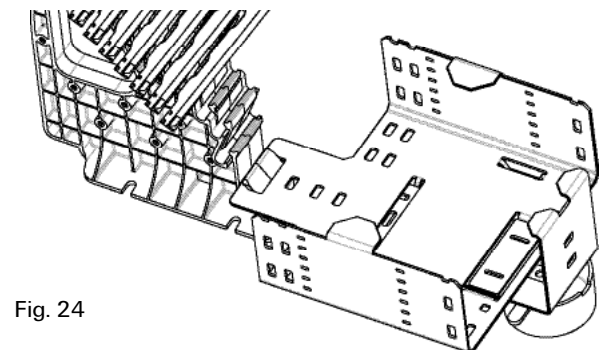

Fig. 24
6. Install the slack basket in the second position from the bottom in the closure backbone. (Fig. 24)